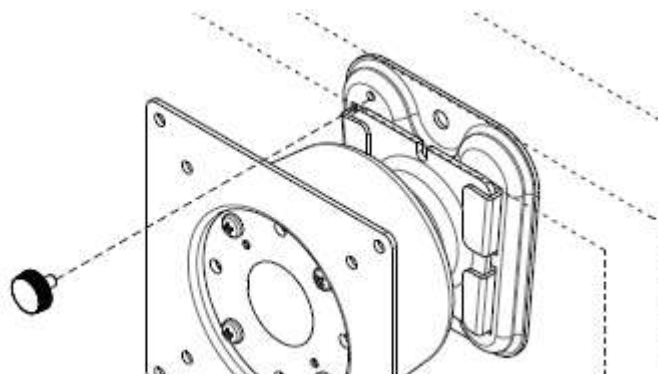

Figure 2.25 Securing the panel PC
8. Secure the panel PC in place by tightening screws in the wall mount bracket (Figure 2.25).